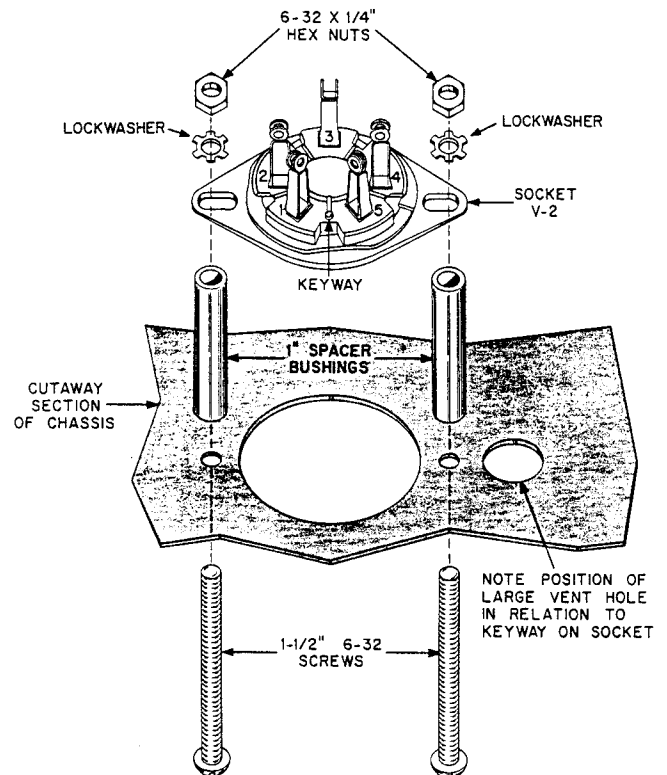

FIGURE 3. HOW TO MOUNT V-2
- ☐ V-2 is a ceramic 5-pin socket. The keyway of this socket is a raised dot. The keyway must be positioned toward the rear of the chassis. As shown in Figure 3, put the two 6-32x1 $\frac{1}{2}$ " screws thru the holes in the chassis from the top. Place the two 1" spacer bushings on the screws and then put the socket on the two screws. Put a lockwasher on each screw and tighten two 6-32 nuts on them.